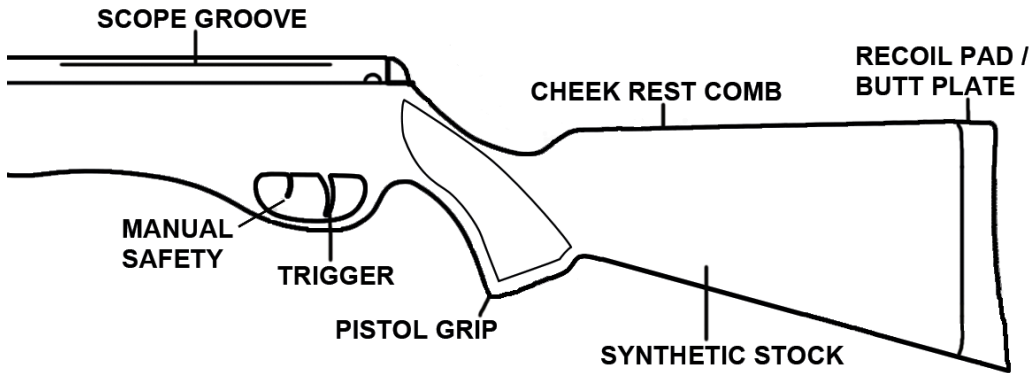

Figure 7
3. Place the solid end of the pellet directly into the barrel's chamber. See Figure 7.